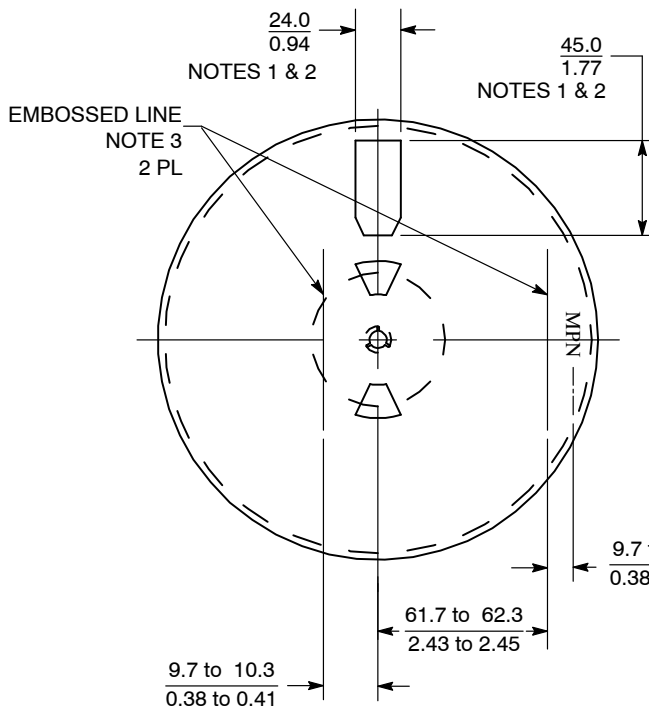

Figure 37. Front View of 178 mm (7.0 in) Reel
- If there are any flange openings on the front side of the 178 mm (7.00 in) reel they must be designed in locations so that two of the 41.3 mm (1.65 in) ON Semiconductor barcode labels can be applied parallel to each other as in Figure 37.
- Flange opening on the front and the back of the reel are a supplier option but must meet all of the requirements in Note 1. The preferred size for the 176 mm (7.0 in) reel is shown in Figure 37.
- The embossed lines on the reel are an option. If the lines are used they must be located as in Figure 37 and 38. They must be a minimum 38 mm (1.50 in) long. The thickness is a manufacturer's option and not to be used for inspection criteria.